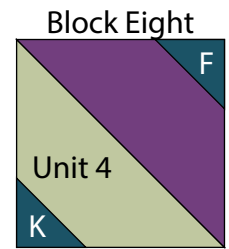

Fig. 19
9. Repeat Steps 7-8 and refer to Figure 19 for component identification, placement, seam direction and orientation to make (1) Block Eight square.